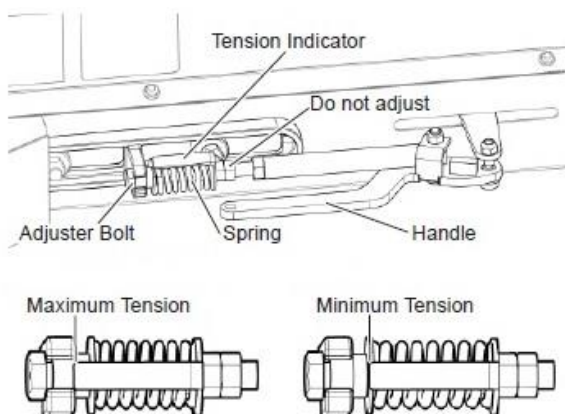

Figure 77
8. Turn the adjuster bolt until the indicator is aligned with the washer. Lock the handle and tighten the lock nut. Figure 77.